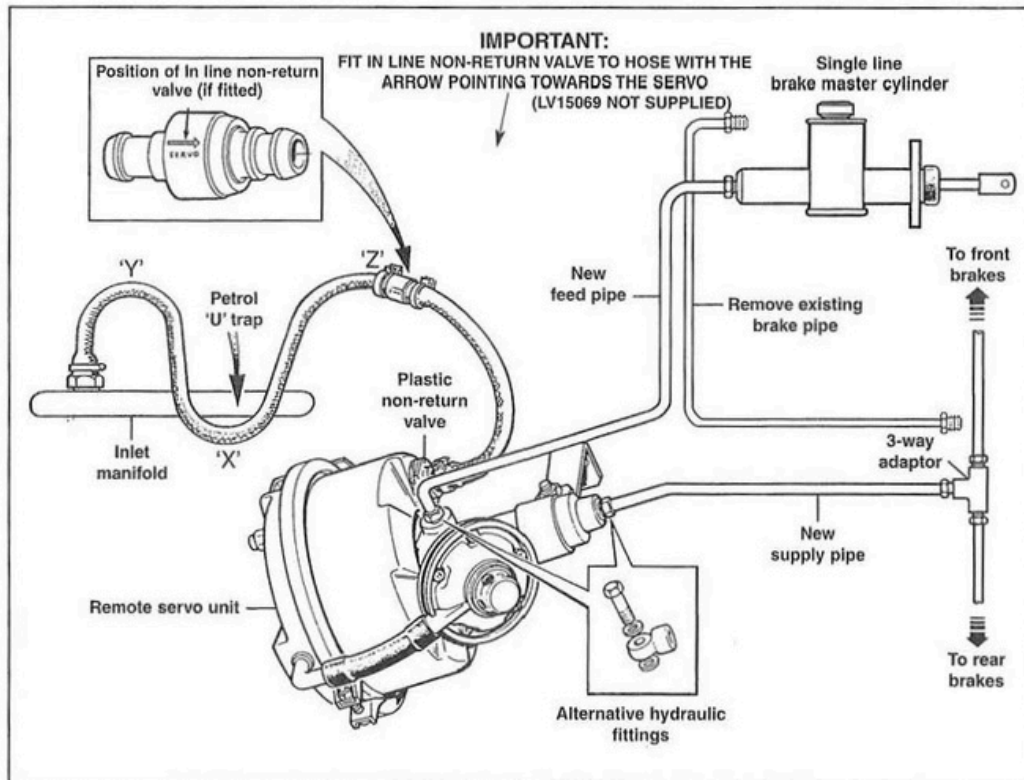

Fig.4 Schematic layout of brake servo unit and relative components
2. Connect up the supply pipe from the servo slave cylinder outlet port to the 3-way adaptor. When bending brake pipes to shape, great care must be taken to avoid kinking. The best way to obtain a good curve is to bend the pipes smoothly round a mandrel of suitable diameter. Using clips, ensure pipes are properly secured and cannot chafe or foul other components. Where a long length of piping is fitted e.g. from one side of the vehicle to the other via the bulkhead, secure the pipe to the bulkhead to avoid vibration. Additional pipe clips are available for use where necessary. On some vehicles where space is limited, it will be helpful to use banjo and bolt fittings in the tappings of the servo slave cylinder to avoid a severe bend in the brake pipe. (See Fig.4).
Attach the vacuum hose from the kit, securing with one of the hose clips provided. In a convenient position, preferably at the highest point in the vacuum hose run, an in line non-return valve is advisable on high performance vehicles. Cut the hose and connect up the two sections to the valve unit, secure with hose clips supplied. Ensure that when fitted the arrow on the non-return valve is pointing towards the servo. (See Fig.4).
Important: To protect the servo unit and non-return valve from fuel contamination, especially on a petrol engine vehicle, a U trap must be formed in the vacuum hose route. It is essential the vacuum hose inclines downwards from the servo and that the U trap is formed below the level of the servo and the in line non-return valve (where fitted), i.e. by looping it between the inlet manifold and non-return valve so that point 'X' is lower than points 'Y' and 'Z' as shown (see Fig.4). Where the vacuum hose traverses the engine secure in position with plastic ties. Secure hose connection at the servo with the remaining hose clip.